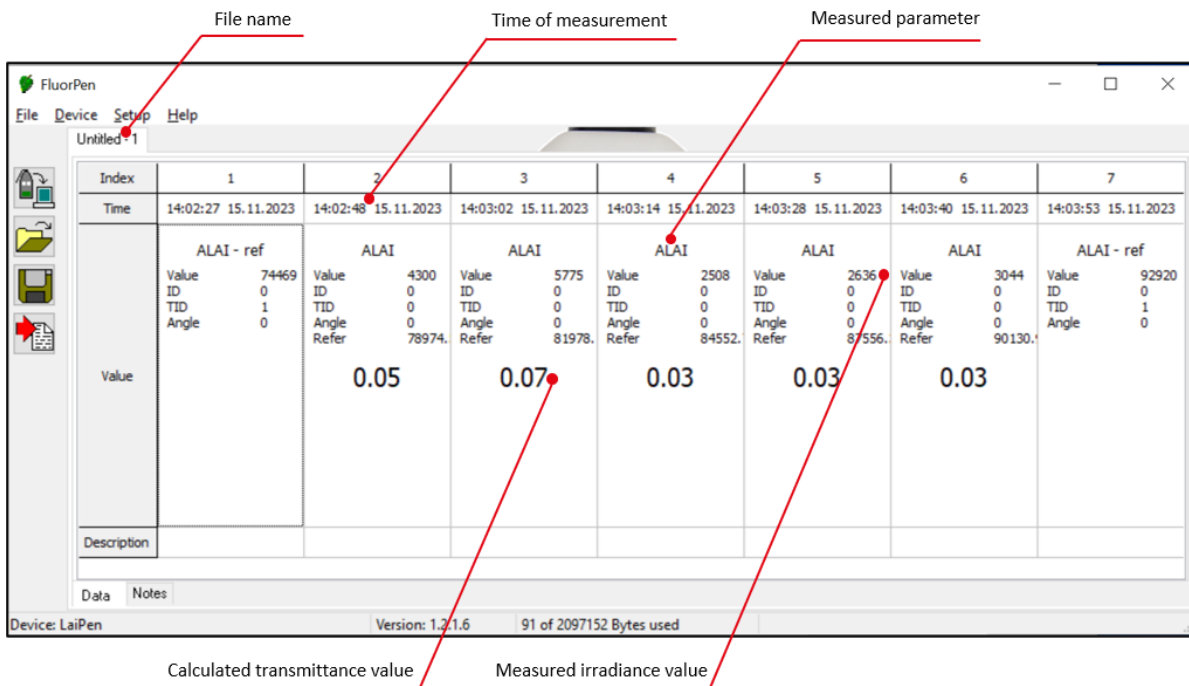

Fig. 25 Data viewing window description
- Select: **Device > Download** or simply click the **Download** icon. The data table appears (Fig. 25)